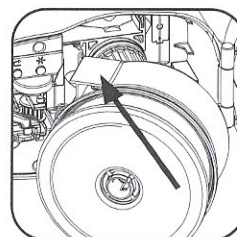

Figure 8
9. Insert Refill into Dispenser. Refill fits dispenser in only one position (line up plastic ribs of Refill with dispenser). (Fig. 8)